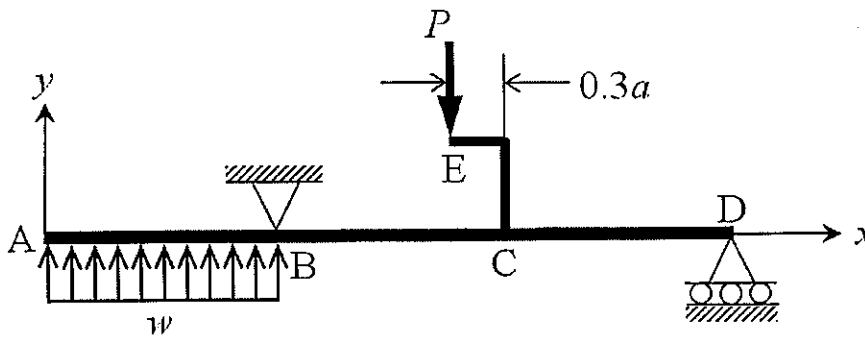

Figure 4
4. A beam ABCD of constant circular cross section is simply supported at B and D as shown in Figure 4. It is subjected to uniformly distributed load of intensity w along AB. A concentrated load P , of magnitude wa , is applied at E of a rigid bracket CE which is firmly fixed to the beam at C. The beam has constant EI . Length of $AB = BC = CD = a$. Ignore the weight of the beam and bracket.